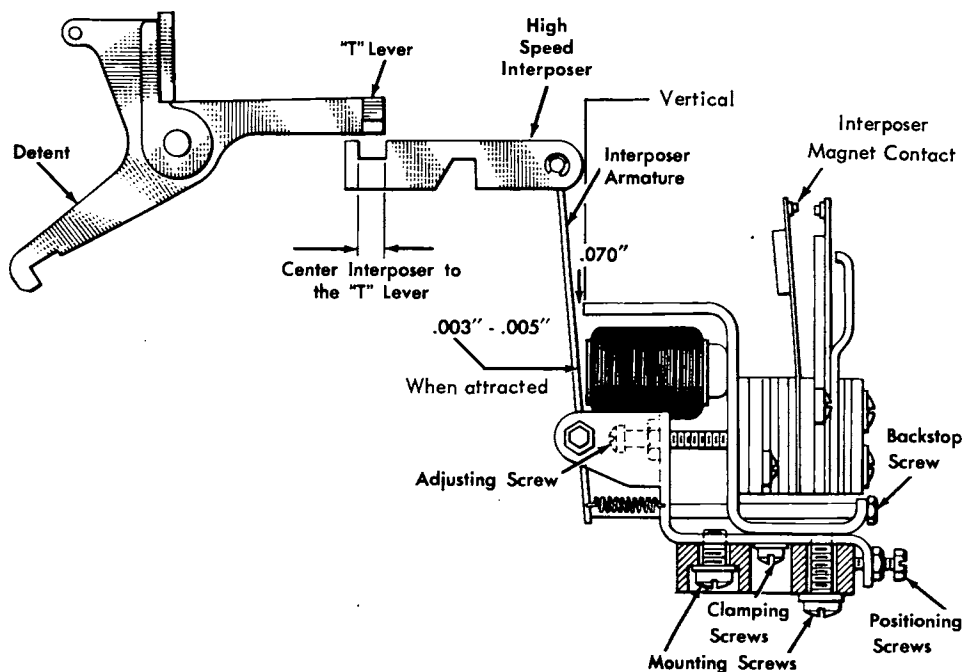

Figure 4-26. Clutch Magnet Armature and T-Lever
core when the armature is against its stop (Figure 4-26). This will position the armature vertically.
3. Adjust the interposer armature backstop screws for 0.070" air gap between the armature and the stop when the magnet is de-energized (Figure 4-26).
4. Loosen the mounting screws and shift the entire interposer armature and contact assembly with the aid of the positioning screw so that the non-operating portion of the high speed interposer is centered under the T-lever (Figure 4-26).